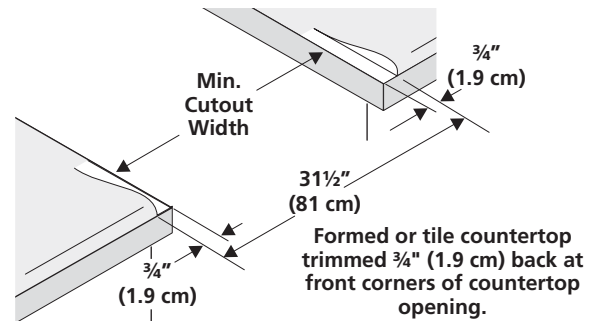

Figure 7
- **Formed front-edged countertops** must have molded edge shaved flat $\frac{3}{4}"$ (1.9 cm) from each front corner of opening (Figure 7).
- **Tile countertops** may need trim cut back $\frac{3}{4}"$ (1.9 cm) from each front corner and/or rounded edge flattened (Figure 7).